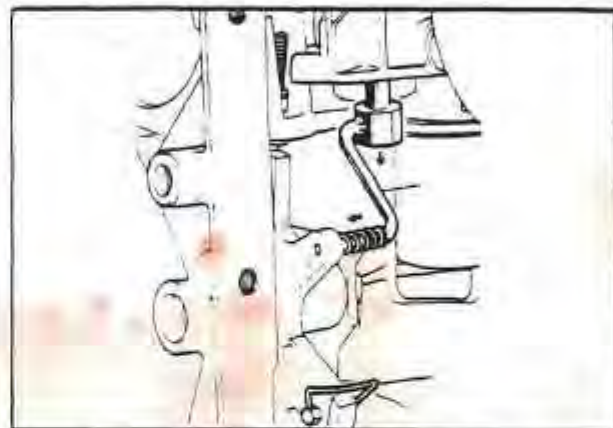

Fig. 17 MANUAL CONTROL VALVE AND PARKING PAWL LINKAGE
- Remove the manual control valve linkage by pushing the link into the quadrant arm and compressing the spring. This will disengage the other end of the link from the control valve. Remove the linkage. *Fig. 17*